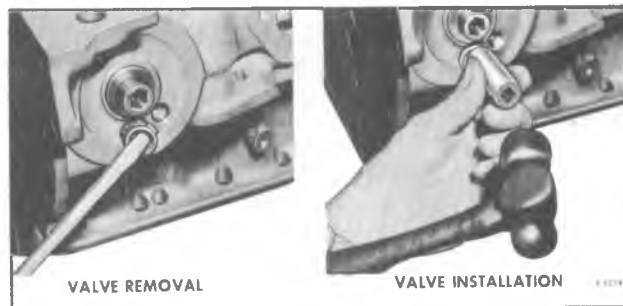

Figure 13—Replacing Oil Filter By-Pass Valve (In-Line Engine)
2. Referring to figure 13, use screwdriver as shown to pry valve out of recess in block.